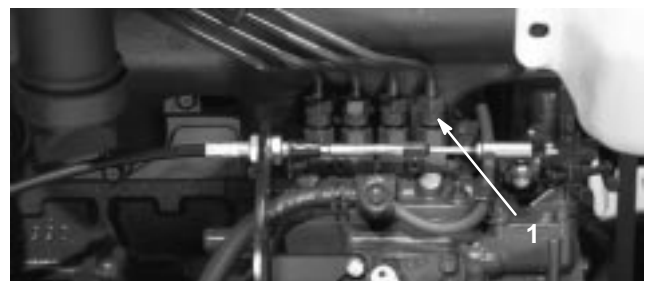

Figure 32
1. Loosen the pipe connection to the No. 1 injector nozzle and holder assembly at the injection pump (Fig. 32).